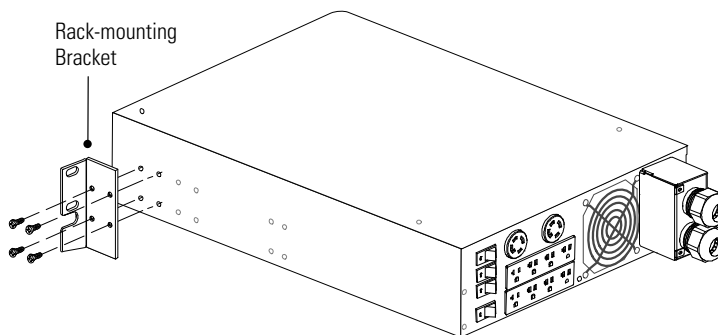

Figure 4. Installing Mounting Brackets
3. Align the mounting brackets with the screw holes on the side of the cabinet. Install the mounting brackets (see Figure 4).